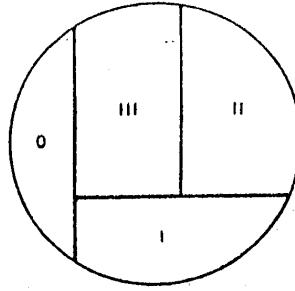

Figure 8-11: Sector markings on the bottom of an empty petri dish.
- 1- Mark the bottom of your nutrient agar plate with a wax pencil, dividing it into sectors as indicated in Figure 8-11.